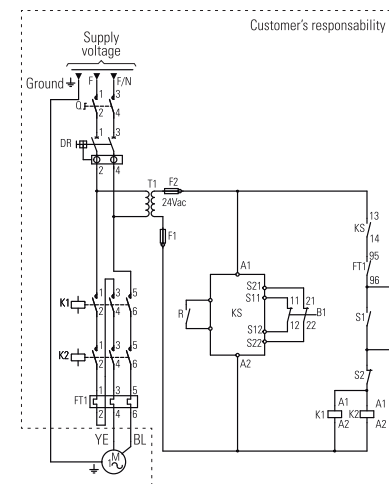

FIGURE 8.1 SINGLE-PHASE ELECTRICAL CONNECTION DIAGRAM FOR PROFESSIONAL / INDUSTRIAL PRODUCTS
The diagram in Figure 8.1 provides guidance on the installation to be performed by the customer in the Switchboard for the supply cable that will be used to connect the equipment.
Legend (Figure 8.1)
- Figure 8.1 shows the recommended wiring diagram for the product.
To meet the NR12 standard it is necessary to perform the product's electrical installation as shown in figure 8.1.